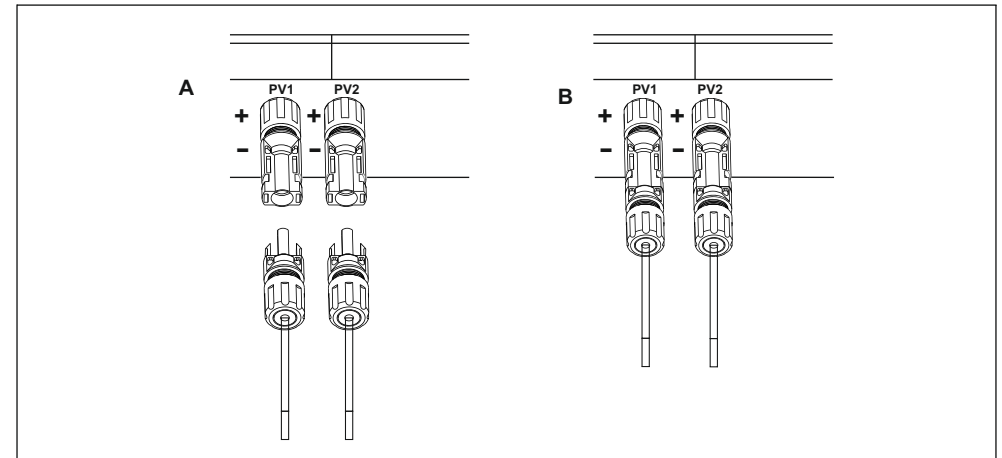

Fig 13
- 3) Connect PV connectors as shown in fig.13